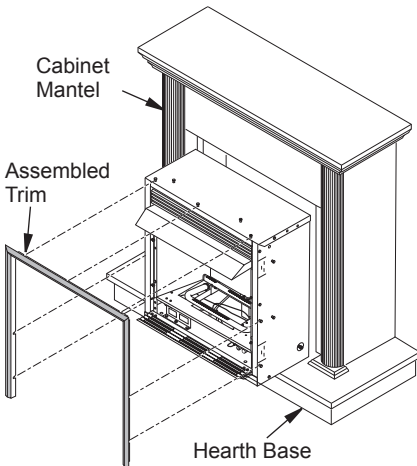

Figure 14 - Installing Fireplace into Mantel Assembly
10. Carefully insert fireplace into cabinet mantel (see Figure 14, page 13). Be careful not to scratch or damage hearth base or cabinet mantel.